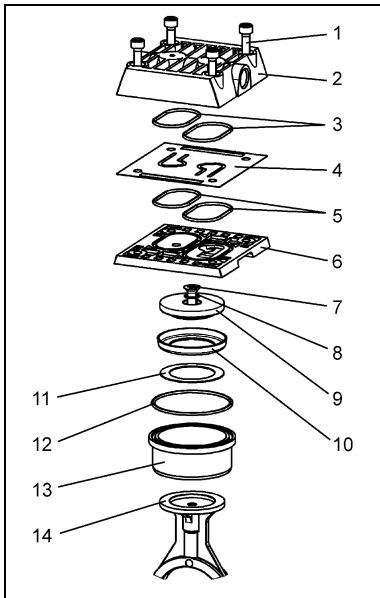

Fig. 5: NPK 25 AC / NPK 25 DC:
\*\* According to Fig. 5.
**i** To align the valve plate, refer to fig. 5 and a groove in the intermediate plate and valve plate: The two grooves must lie on top of each other.
\*according to Fig. 5